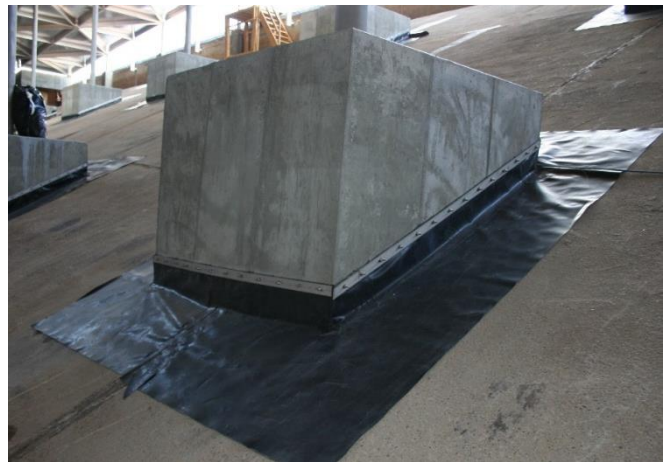

Figure 1. Photographs of mechanical attachments and pipe boot.
1. Leak testing mechanical attachments and pipe boots is difficult and a common leak point (see **Figure 1**). This White Paper summarizes the responses to the testing of mechanical attachments and pipe boots during and after installation.